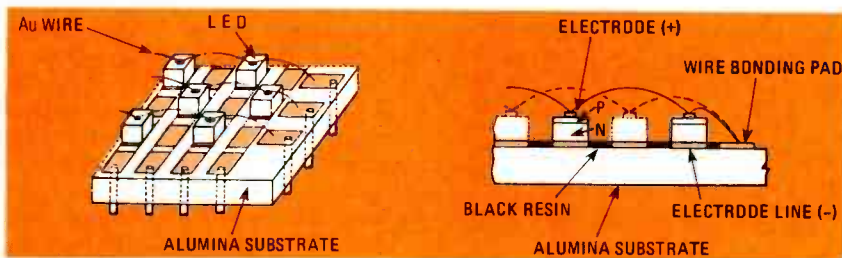

FIG. 8—LED MATRIX DISPLAY is made up of an array of discrete LED's fabricated on the same substrate and connected by extremely fine gold wire.
**Light-emitting diodes:** Currently out of favor with most researchers, the light-emitting diode matrix uses a compact arrangement of LED's fabricated directly onto a substrate, as shown in Fig. 8. All electrode rows and columns are located on the substrate, with anode connections to the tips of the LED components made with ultra-fine gold wires, in a fashion similar to that used in manufacturing integrated circuits.